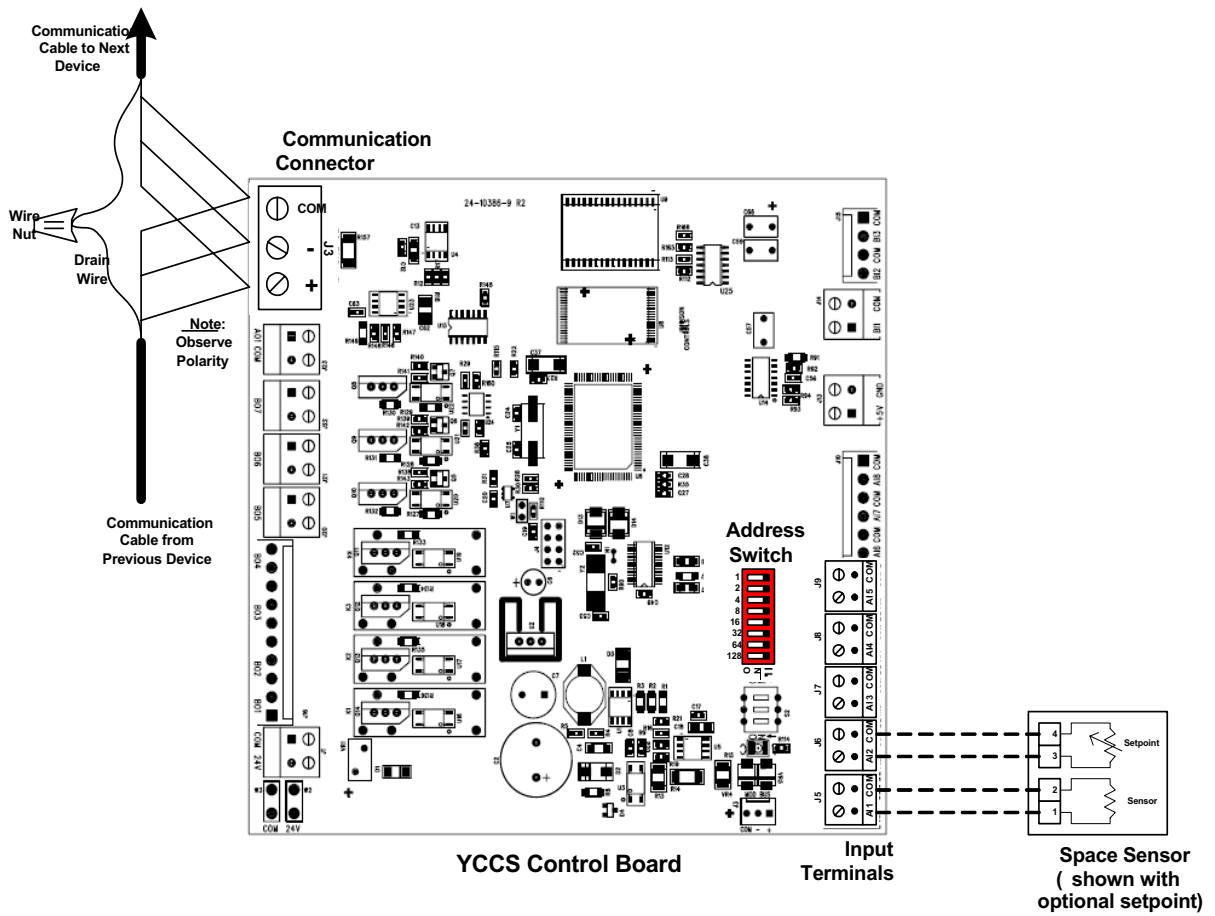

Figure 2: YCCS Control Board Field Terminations
Pick a color pattern to follow and insert each of the three conductors into one each of the three terminals on the YCCS board communication connector. Tighten each terminal until the wire is secure (Figure 2). Ground the drain wire at one end only of the communication trunk. Do this on the last unit in line. Use an existing hole or drill a hole and insert a sheet metal screw in the back plate below the communication connector. Wrap the bare drain wire around the screw and tighten the screw. **This is the only location where the shield is grounded.**
2. Daisy chain the three-conductor wire between the remaining Rooftop Units. Connect the drain wires together with the wire nuts (Figure 2). Follow the stripping and connecting procedure in Step 1.
Figure 2 shows the RTU controller board field terminations.